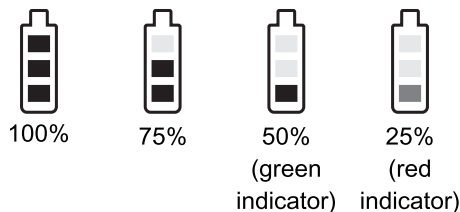

Fig. 33
- (A) Power on: Press the power button 17 and battery indicators 16 light up.
- (B) Power off: Press the power button for two seconds and battery indicators are off.
- (C) Battery level indicators, Fig. 33.